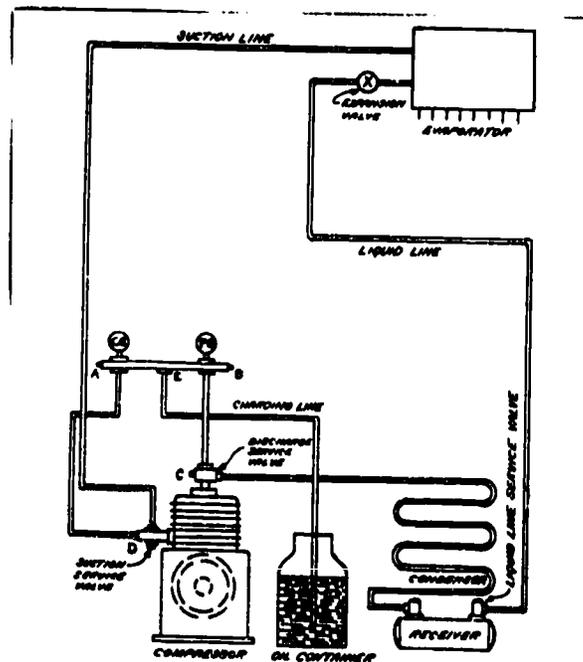

Fig 3-23. Adding oil to the compressor using the vacuum method.
- Vacuum method (refer to fig 3-23).